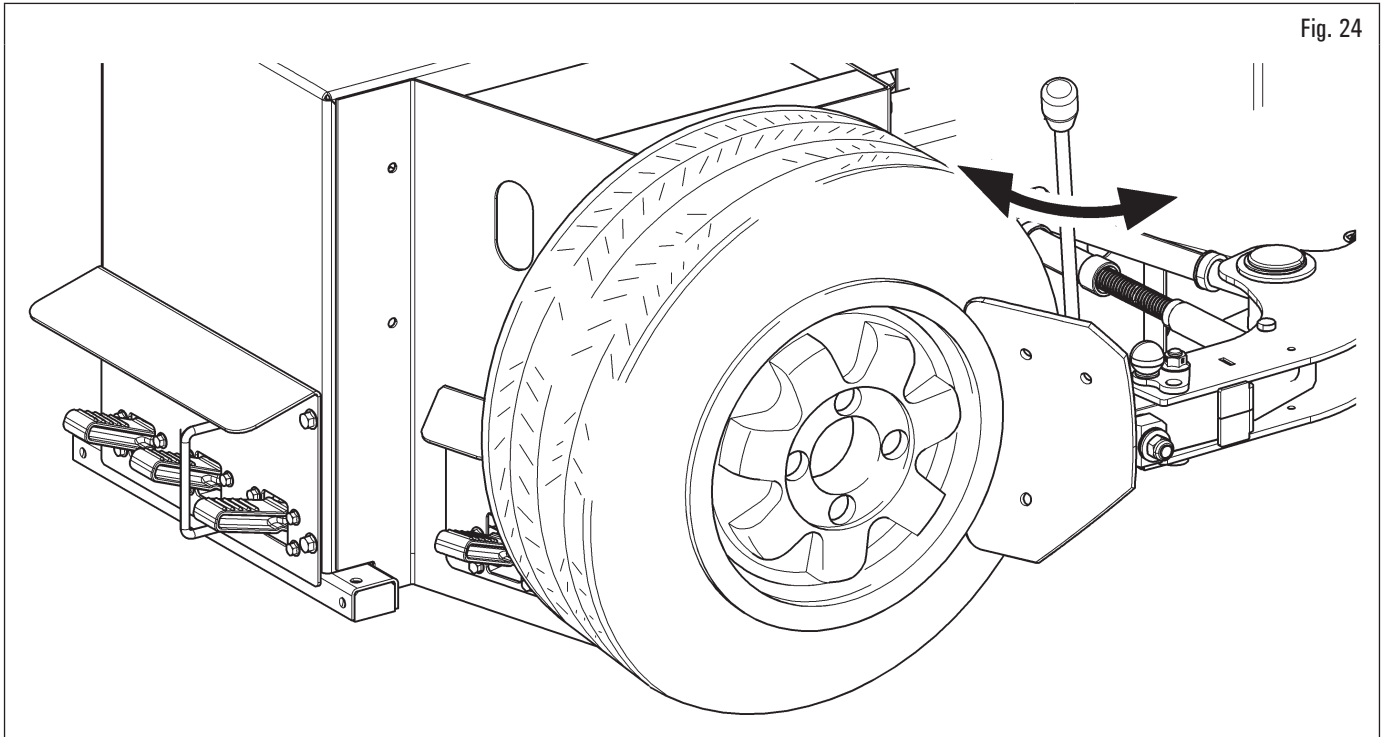

Fig. 24
1. position the wheel as indicated in Fig. 24 and move the bead breaker shovel towards the edge of the rim;